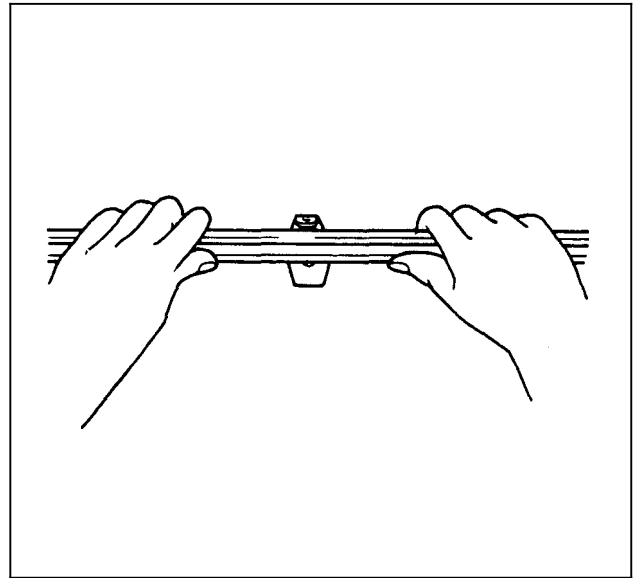

Fig. 25
4. Starting at the center of the rod, snap rod into brackets. (Fig. 25) Be sure to fully attach rod into bracket; a snap or click can be felt and heard when properly engaged.